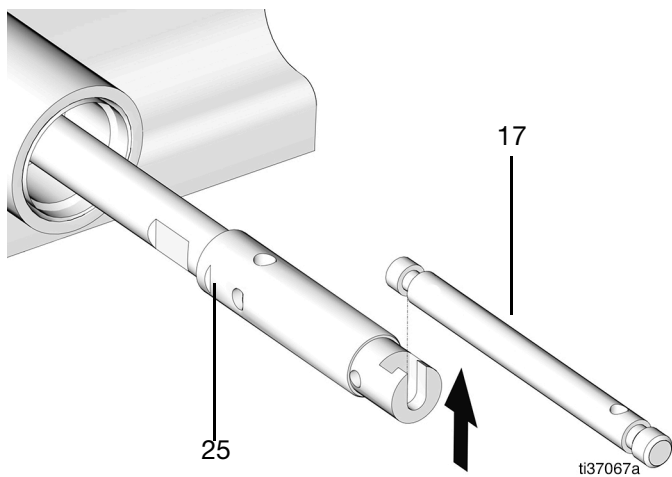

FIG. 42
26. Remove the shovel rod (17) from the pump piston (25) (FIG. 42).